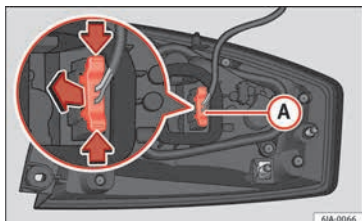

Fig. 99 Light connector at the rear of the rear light unit.
- Disconnect the light connector (A) » **Fig. 99** by moving its side levers (arrows) and pulling the connector outwards.